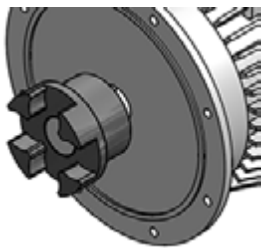

Fig. 14: Fitting the coupling to the motor shaft
3. Pull the coupling sleeve onto the motor shaft according to the instructions of the motor manufacturer. The shaft end of the motor must be adjusted so that it is parallel with the face of the coupling (see Fig. 14).